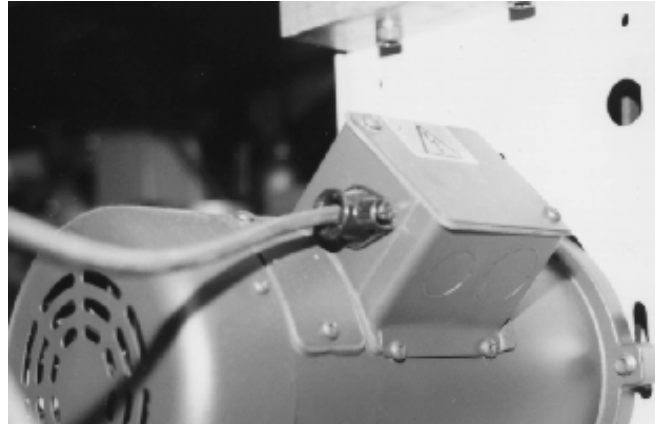

Figure 8
13. Reconnect the backgauge motor cable. From the table, the cable runs through the strain relief bushing into the motor housing, (Figure 8). Attach the wires according to the wiring schematic in the back of this manual for the machine model you have.